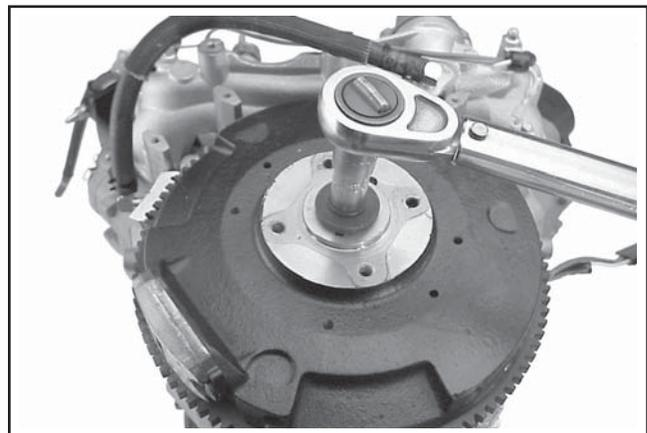

Figure 11-70. Torquing Flywheel Bolt.
4. Use a flywheel holding tool to hold the flywheel and torque the hex flange screw to **66.4 N·m (49 ft. lb.)**. See Figure 11-70.